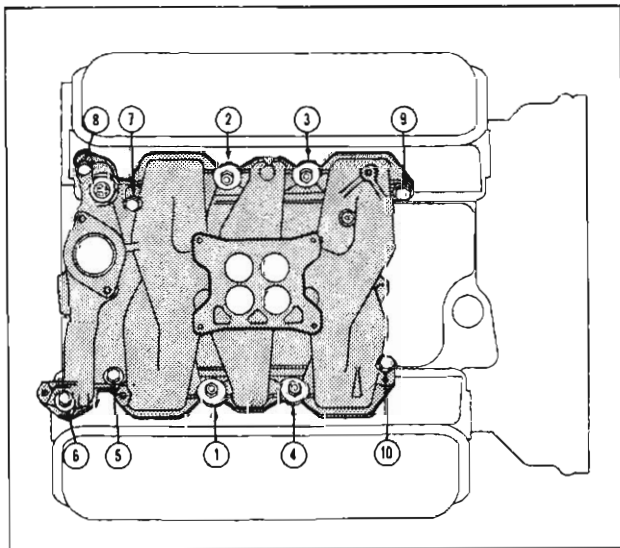

Fig. 3-2 Intake Manifold Torque Sequence
2. Dip threads of intake manifold bolts in C.P. No. 9 sealer (Nat. Machine Prod. Co.). Install manifold bolts and nuts and torque 22 to 34 ft. lbs. in sequence as shown in Fig. 3-2.